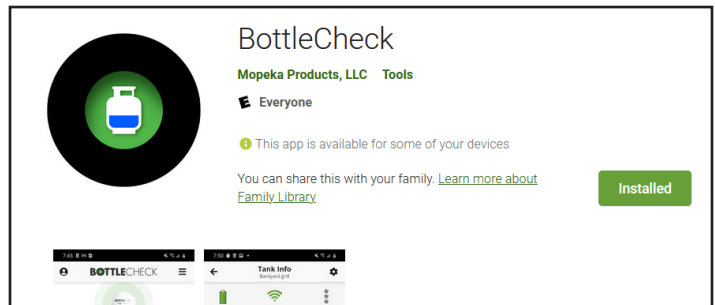

Fig.1
1. Search for "Bottlecheck" to find the Lippert BottleCheck application in the app store on an iOS or Android smart device (Fig.1). Download the app to the smart device.